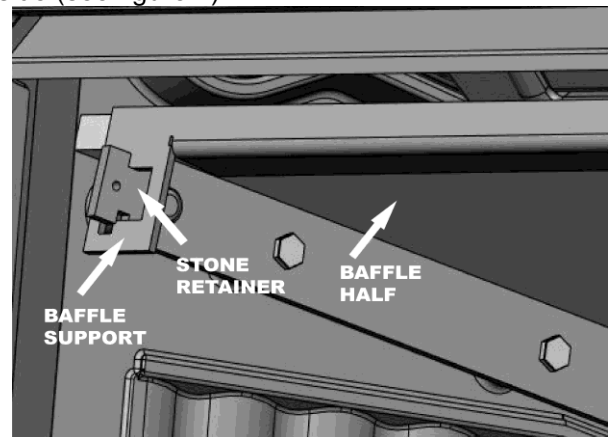

Figure 7 – Baffle Support and Baffle Half (left side)
1. Remove the baffle halves by lifting the right side of the baffle support off of the stone retainer. Slide the baffle support to the right and detach it from the left side (see figure 7).
**Step Nine:** Reinstall the baffle (see figure 7 & 11) by reversing step 4 subpart 1.
**Note:** To get the side stone under the stone retainer (see figure 7) install them far to the front of the firebox and slide them to the back.